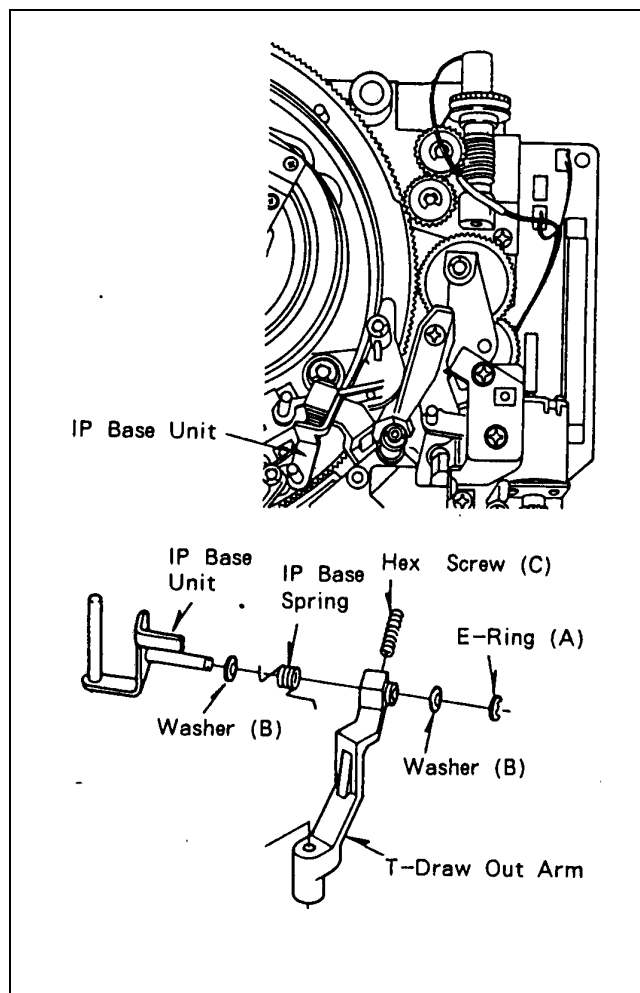

Figure 7-18-1 IP Base Unit Removal
2. Loosen the Hex. screw (C) and remove E-Ring (A), 2 washers (B), IP Base Spring and IP Base Unit as shown in Figure 7-18-1.